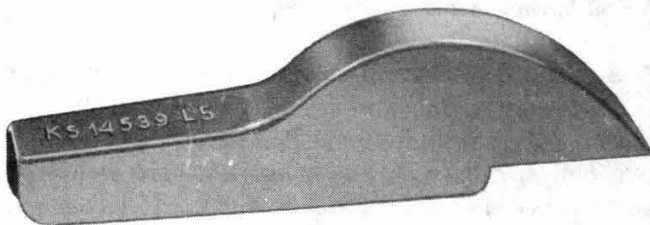

Fig. 5—KS-14539, List 5 Guard
- Guard, KS-14539, List 5, Fig. 5
KS-14539, List 5 Guard (Fig. 5)